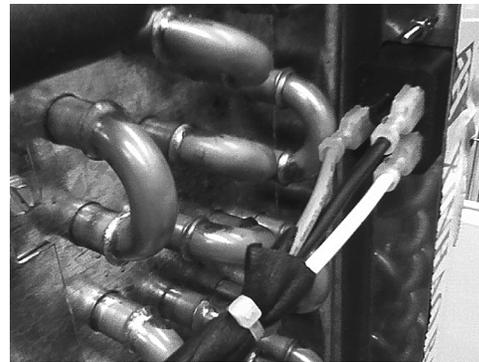

Figure 1.
3. Connect the ground wire (P/N 309782000) provided in the kit by pressing the quick connect bushing onto the IEC connector ground location. (See Figure 1) This is the main power in line – next to the condenser.